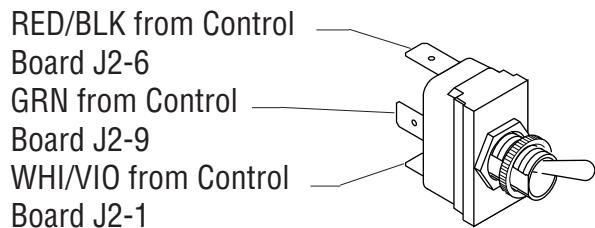

FIG. 21 INCREASE/DECREASE SWITCH TERMINALS
5. Refer to Fig. 21 when connecting the wires to the new switch.